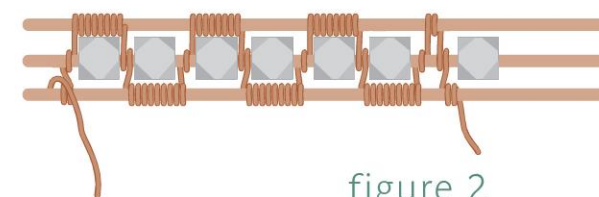

figure 2
- 11 Slide a bead onto Frame Wire 2, again to keep the wires appropriately spaced. Continue working Weave Pattern 4 to the left of the bead just added, connecting Frame Wires 2 and 3, then 2 and 1 one time each (Figure 2).